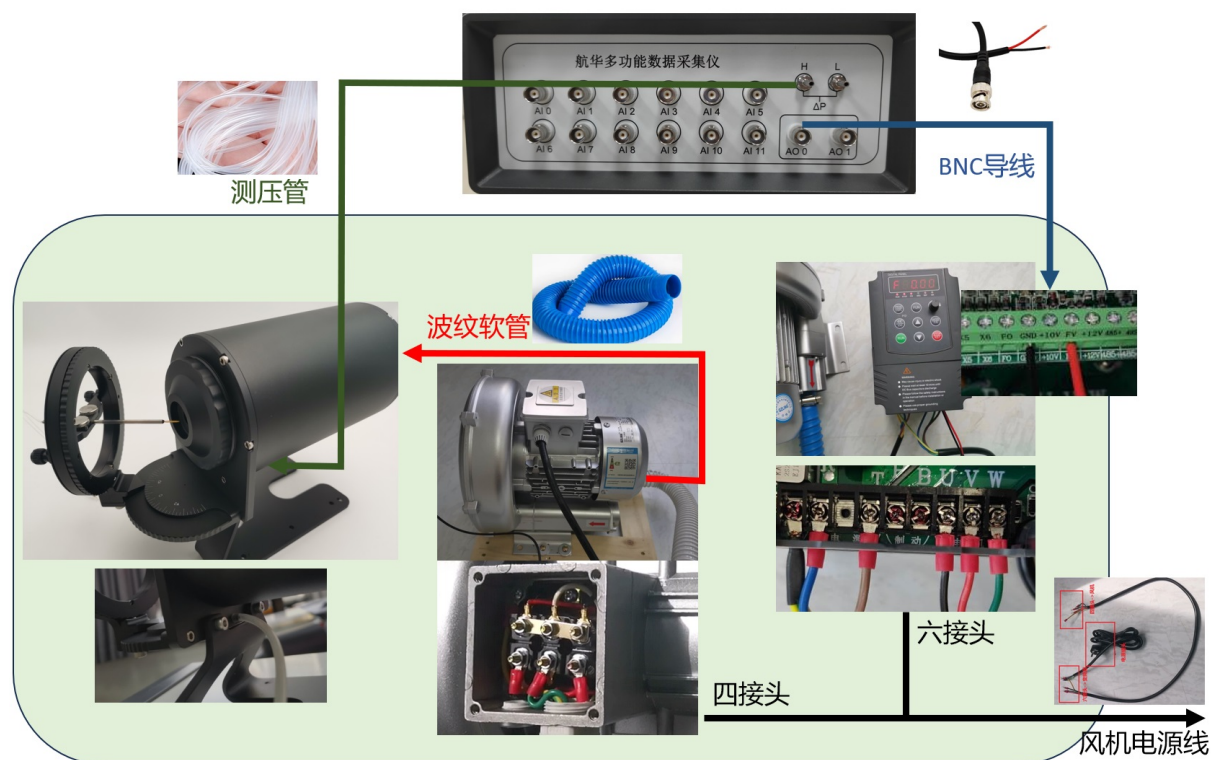

Figure 8: Wiring method for the CR04 manual calibrator
If the user uses the Hanghua CR04 manual calibrator, follow the connections shown in Figure 8. Specific steps include:
Step 2: Connect the blue, brown, and yellow wires from the 6-pin connector to the left side of the frequency drive terminal box (blue to R, brown to T, yellow to Ground), as shown in Figure 8.
Step 3: Connect the red, green, and black wires from the 6-pin connector to the U, V, and W terminals on the right side of the frequency drive terminal box, as shown in Figure 8.
- Step 5: Connect the flexible tubing (Figure 3g) from the total pressure measurement port on the calibrator (bottom left of Figure 8) to the "H" pressure port on the upper right of the front panel of the multifunctional data acquisition unit (inside the DAQ16, the analog voltage output of the pressure sensor is connected to the AI-13 port of the data acquisition card).